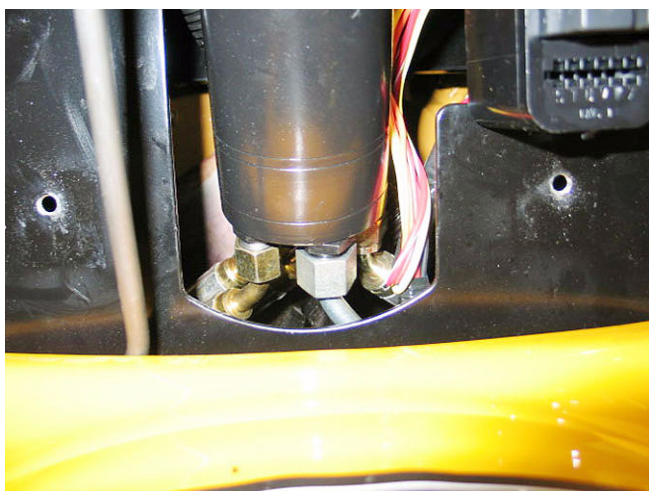

Figure 3.10
- 3.10. Working from back to front, disconnect the hydraulic lines from the steering pump. Cap the lines as they are removed. See Figure 3.10.